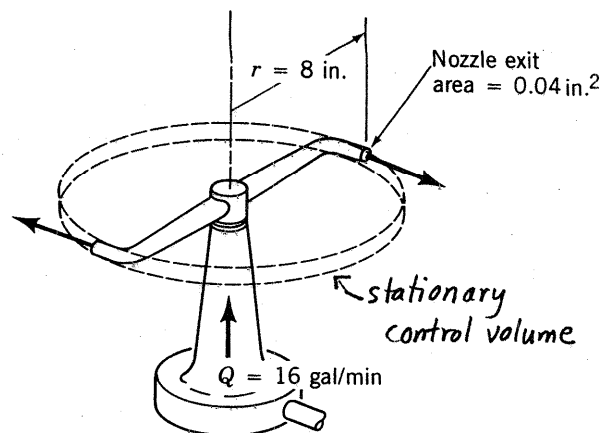

FIGURE P5.68
5.68 Water enters a rotating lawn sprinkler through its base at the steady rate of 16 gal/min as shown in Fig. P5.68. The exit cross section area of each of the two nozzles is 0.04 in.² and the flow leaving each nozzle is tangential. The radius from the axis of rotation to the centerline of each nozzle is 8 in. (a) Determine the resisting torque required to hold the sprinkler head stationary. (b) Determine the resisting torque associated with the sprinkler rotating with a constant speed of 500 rev/min. (c) Determine the angular velocity of the sprinkler if no resisting torque is applied.